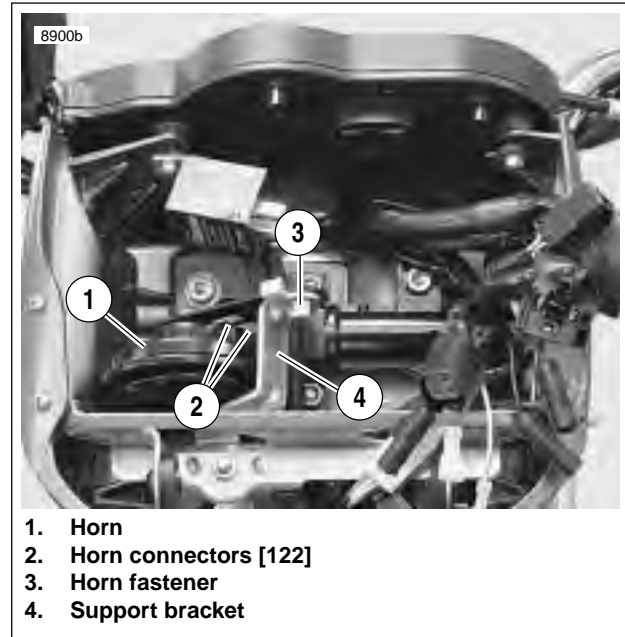
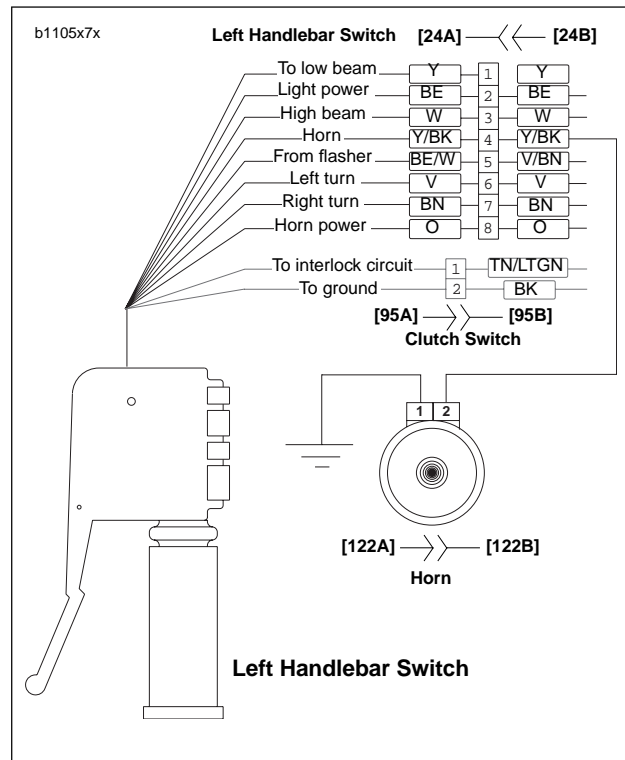

Figure 7-74. Horn Assembly
Figure 7-75. Horn Wiring
4. See Figure 7-74. Remove fastener (3).
5. Remove horn (1) from fairing support bracket (4).
6. See Figure 7-75. Detach Y/BK power wire and BK ground wire from terminal clips on horn.
1. See Figure 7-75. Connect Y/BK power wire and BK ground wire to terminal clips on horn.
2. See Figure 7-74. Attach horn (1) to fairing support bracket (4) using fastener (3). Tighten to 72-96 in-lbs (8.1-10.8 Nm).
- a. See Figure 7-75. Remove Y/BK power and BK ground wires from terminal clips.